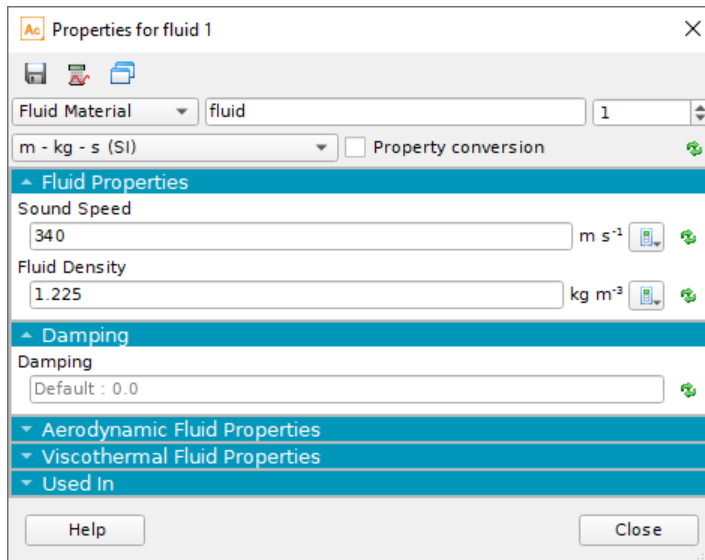

Figure 6.13: Edit the properties of the material
- In the popup property window of the fluid material, enter the material properties of air. The user can use the default value for each property, using the green icon (Figure 6.13).